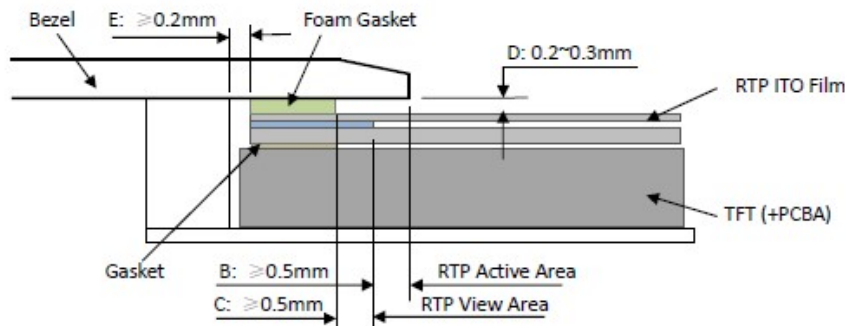

Figure 4
- It should bezel touching the RTP Active Area (A.A.) to prevent abnormal touch.It should left gab $D=0.2\sim 0.3\text{mm}$ in between. (Figure 4)
- Outer bezel design should take care about the area outside the A.A. Those areas contain circuit wires which is having different thickness. Touching those areas could de-form the ITO film. As a result bezel the ITO film be damaged and shorten its lifetime. It is suggested to protect those areas with gasket (between the bezel and RTP).The suggested figures are $B\geq 0.50\text{mm}$; $C\geq 0.50\text{mm}$. (Figure 4)
- The bezel side wall should keep space $E=0.2\sim 0.3\text{mm}$ from the RTP. (Figure 4)
- 为避免面框直接压在动作区 (A. A.) 上造成误动作, 面框与电阻触摸屏 (RTP) 之间应留有一定的空隙 $D=0.2\sim 0.3\text{mm}$ 之间. (附图 4)
- 设计面框时, 要注意用面框保护触摸屏四周的非保证操作区域, 因为布线区域在此处形成一台阶, 在此区域附近操作时 ITO Film 变形较大, 容易导致 ITO 损坏而降低寿命. 为保护 RTP 和避免误操作, 在 RTP 与面框之间垫缓冲物 (Gasket), 我们建议设计面框应覆盖动作区的边缘, 面框边缘到 V. A. 区的距离 $B\geq 0.50\text{mm}$; 垫圈内边缘到 V. A. 区的距离 $C\geq 0.50\text{mm}$. (附图 4)
- 在设计面框与 RTP 组装时, 应考虑到面框内侧与 RTP 外侧的间距 $E\geq 0.2\text{mm}$. (附图 4)